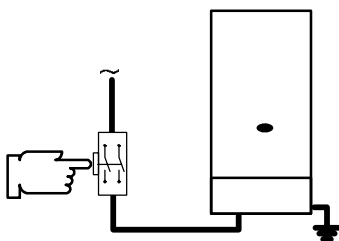

fig. 3.1
- a fused spur isolation switch, with a gap of at least 3 mm between the contacts (fig. 3.1) must be installed near to the boiler. Refer to section 3.6 in this chapter for the electrical connections.